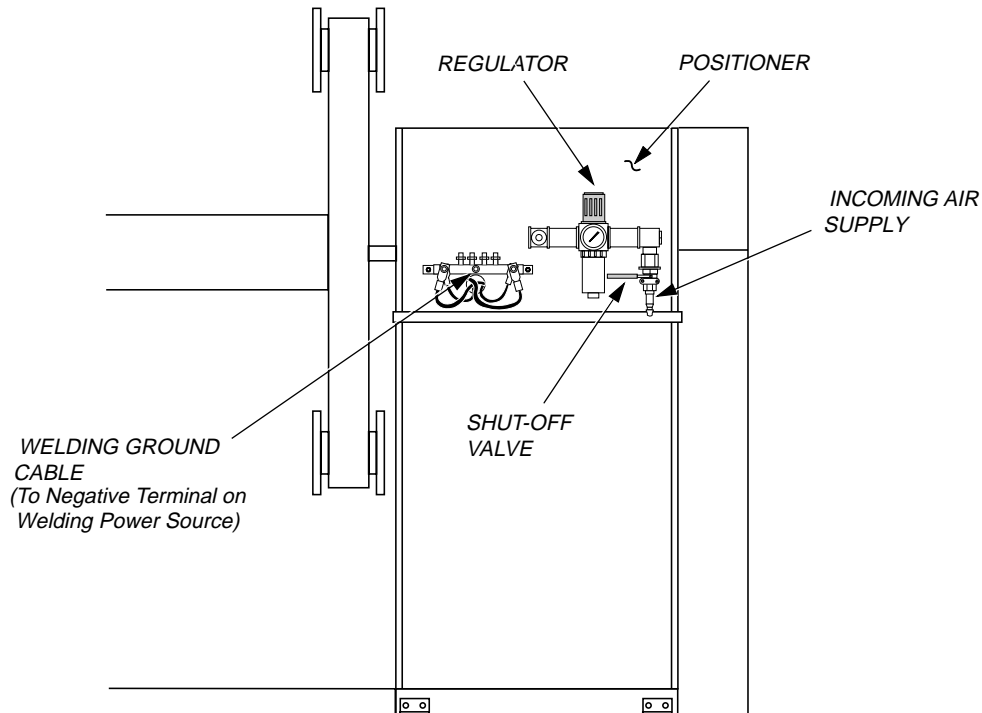

Figure 4-6 Ground Welding Cable on Positioner
2. Connect one end of the welding ground cable to the grounding bolt located on the side of the positioner cabinet (see Figure 4-6).
The positioner air line is regulated by the filter/regulator/lubricator (FRL) and is installed on the side of the positioner cabinet, as shown in Figure 4-6. The customer is responsible for providing and installing the air line connector fitting to the FRL. After the fitting is installed, connect the air line to the fitting. The incoming air supply should be 0.04 cmm at 620.5 kPa (1.5 scfm at 90 psi).